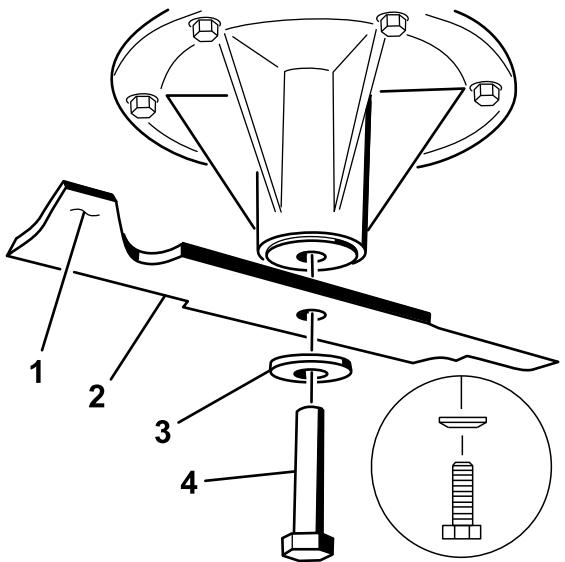

Figure 102
blade is not balanced, file some metal off the end of the sail area only (Figure 102). Repeat this procedure until the blade is balanced.
1. Install the blade onto the spindle shaft (Figure 102).
2. Install the spring disk and the blade bolt. The spring disk cone must be installed toward the bolt head (Figure 102). Torque the blade bolt to 115 to 150 N·m (85 to 110 ft-lb).